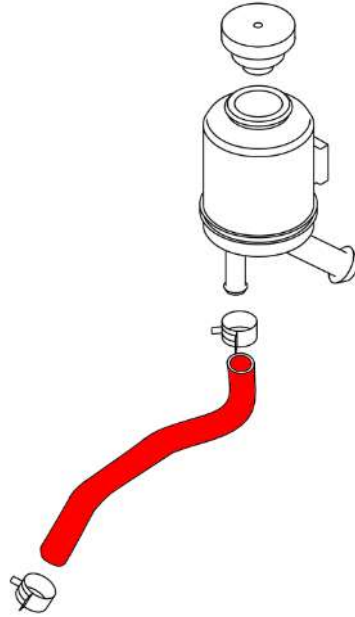

Figure 6
11. Remove the OE Power Steering Hose from the Power Steering Fluid Reservoir. Prepare a bottle or can to catch fluid upon removal of the hose. Retain the Hose Clamps as they will be reused. *Figure 6.*